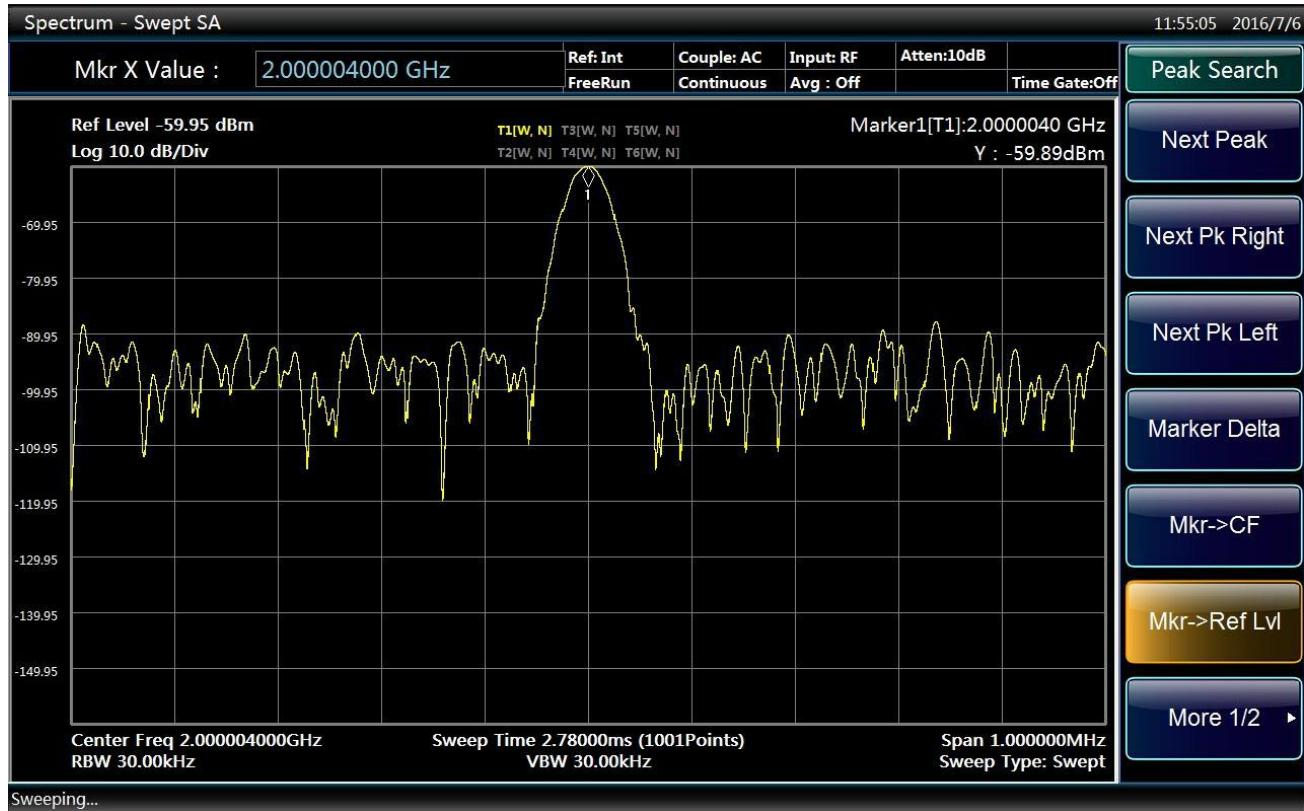

Fig. 4.22 Display interface of second harmonic amplitude
- Press [Marker → Ref Level] to adjust harmonic peak to the reference level with second harmonic amplitude as shown in Fig. 4.22.